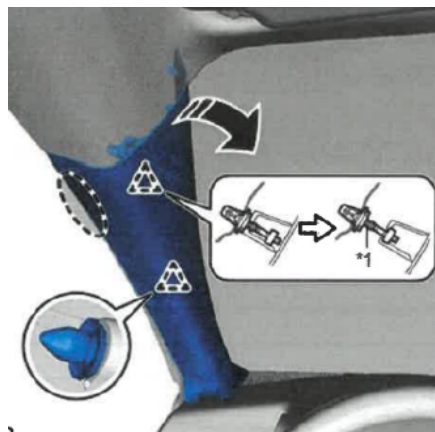

Figure 6
- (b) While pushing the tabs of the front pillar garnish clip as shown in Figure 6, disengage it
Remove the front upper and lower garnish clips. **These clip CAN NOT be reused. DESTROY and DISPOSE of clip.** Figure 6.